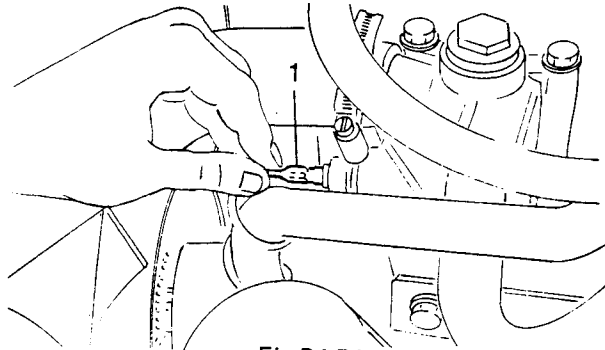

Fig B4.74
- (10) Refer to Fig B4.74. Reconnect the wire to the coolant temperature transmitter (1).
- (11) Position the heater hoses and secure with the clamp on the inlet manifold.
- (12) Reconnect the bypass hose, the heater hoses and the top radiator hose.